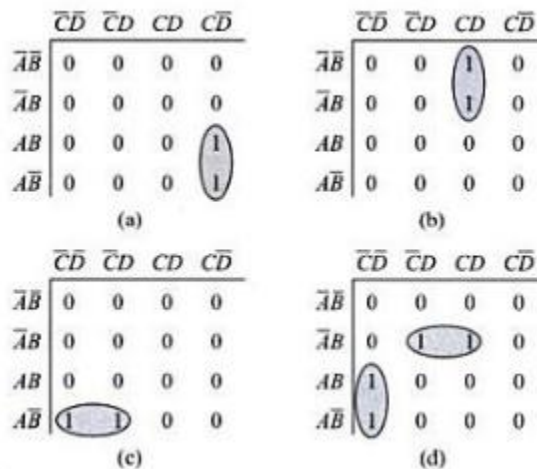

Figure 3.12: Example of pairs
- A pair is a group of two 1s that are horizontally or vertically adjacent. It eliminates one variable and its complement (Figure: 3.12).